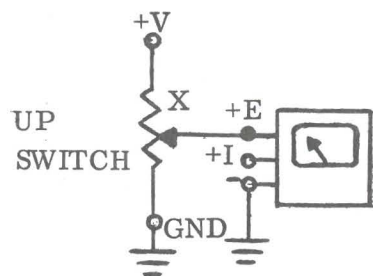
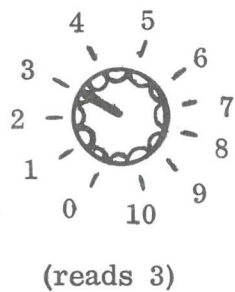

Fig. 58-1 . ANALOG VOLTAGES
Fig. 58-2 . KNOB
1. Wire the circuit shown in Fig. 58-1. Note that the (+V) plus voltage is taken from "1" output of the power supply. This supplies a zener regulated voltage of approximately + 3.8 volts. Rotate the potentiometer Knob through the ten marked positions shown in Fig. 58-2 (0, 1, 2, 3, etc. to 10). Enter the knob position and meter voltage in table 58-3 The meter voltages are read as shown in Fig. 38-4. The pointer in position A reads 2.3 volts. The pointer in position B reads 2.55 volts. Then plot the results on a graph as shown in Fig. 58-5. Using a ruler, draw a 'best-straight-line' through the points.